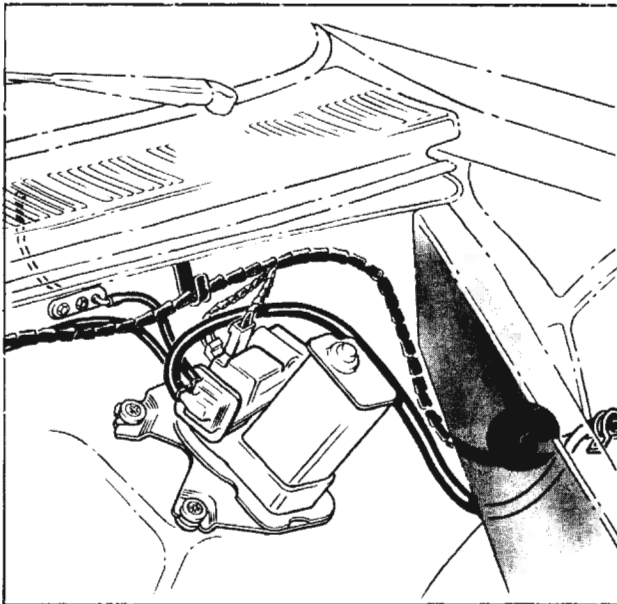

Fig. 14-104 Wiring Harness Routing
3. Route under-hood branches through rubber grommet in cowl panel. (Fig. 14-104)